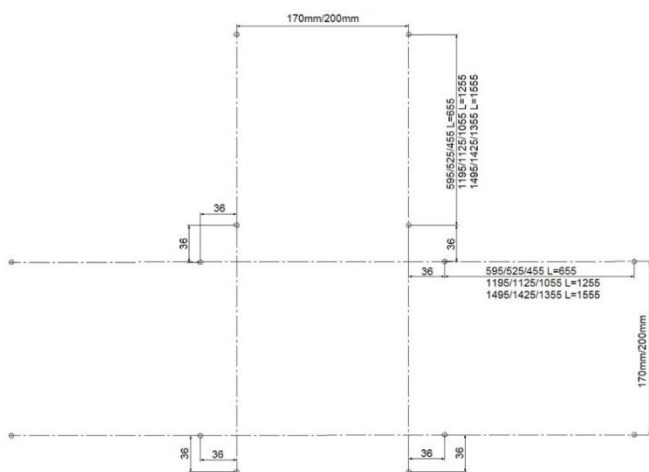

Fig. 9
1. Hang the ceiling light from the ceiling, drilling it according to the indications in Figure 9 (center distance with suspensions 170mm with kit KS352Z 200mm).